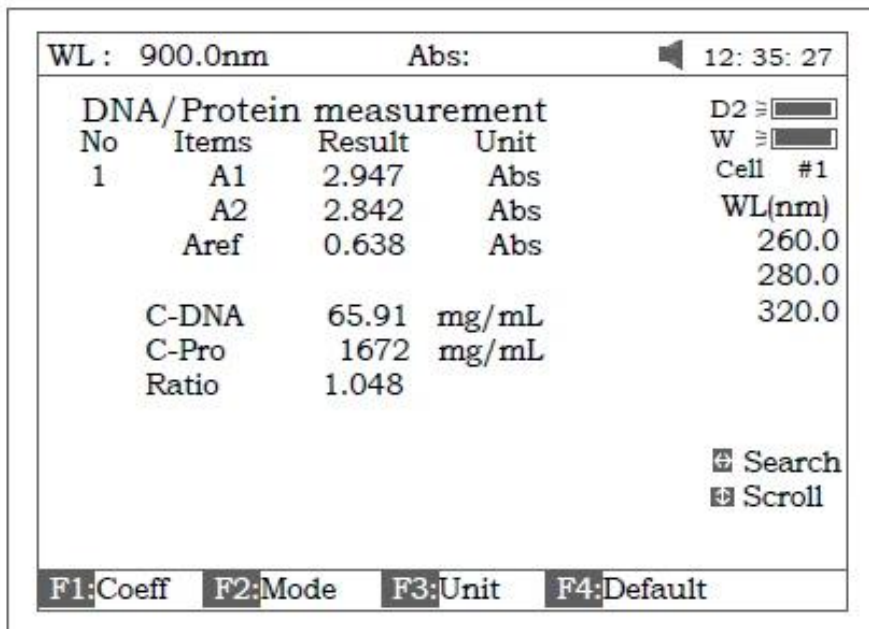

Figure 65
5. Pull the sample cuvette into Main Light Path, press **【START】** to test the sample. The test result will be displayed on the screen (Fig 65).